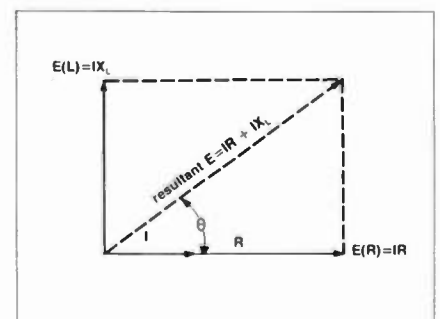

Fig. 6. Vector sum of current/voltage IR drops in the RL circuit of Fig. 5. Measured phase angle θ is 36° between current and final voltage.
In an inductor, recall that voltage leads current by 90 degrees, because inductors always oppose changes in current with a counter emf. So, if we were to draw a vector diagram of this condition, voltage would be at right angles to current, and current would be in phase with the series resistor. The voltage, then would be the drop across the inductance (and resistance), and the resultant and its phase angle between current and voltage in the RL circuit would look like it does in Fig. 6. The X_L reactance is perpendicular and its voltage is the IX_L drop across its impedance Z. The horizontal projection shows current in phase with resistance and, again, the current times the resistance (IR) amounts to the voltage along this portion. The total voltage in the circuit, then, is the vector addition of the IR and IX_L drops, and is the resultant, with phase angle between current and voltage represented by theta, θ . So even though X_L is a 90-degree phase shift in itself, a Z + R circuit can have an entirely different resultant and finish with a phase angle that isn't even half of what a pure inductance by itself would produce.